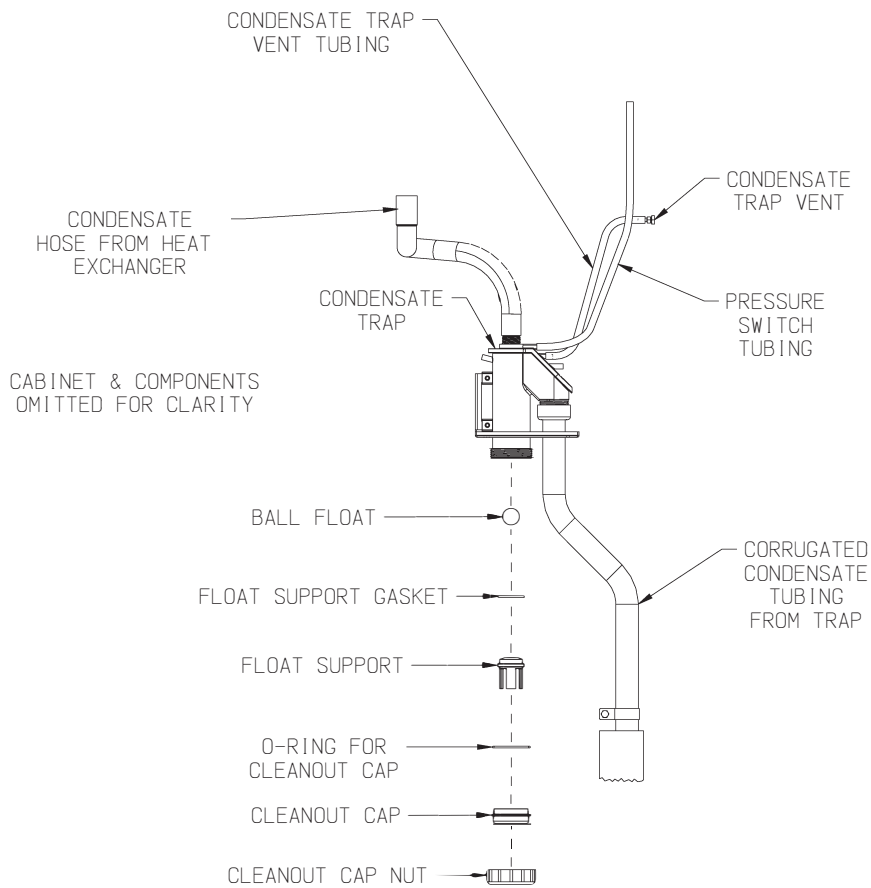

Figure 14.3: Condensate Trap Exploded Parts View
- p. **Inspect and clean the condensate trap.** Place a bucket under the condensate cleanout cap on the bottom of the boiler (see Figure 2.1) to catch water in the trap as well as the ball and ball support. Unscrew the cap, being careful not to lose the ball or ball support. Flush any debris found in the trap with water – do not use other cleaning agents. Reassemble the trap as shown in Figure 14.3.